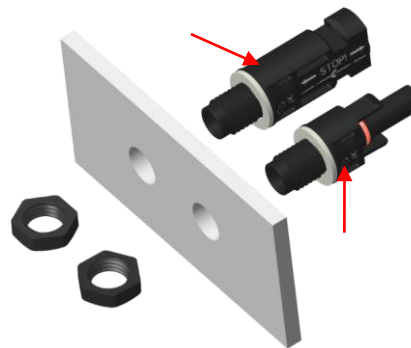

Figure 15
- ✧ 在公/母面板连接器插入钻孔前，请确保已安装防水垫圈，且防水垫圈安装在墙板的外侧(如图 15)
Please ensure seal gasket is located on the insulation before mounting the plastic insulations through the bore. In mounting position, the seal gasket must lie even on the outside of the mounting surface.(Fig.15)